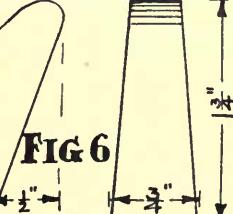

FIG 6
- (f) This is similar to (b) with the substitution of a crane block—see Fig. 6—for the searchlight.